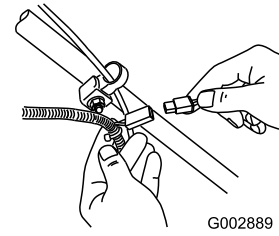

Figure 36
1. Connect the charger to the machine wire harness located below the ignition key (Figure 36).